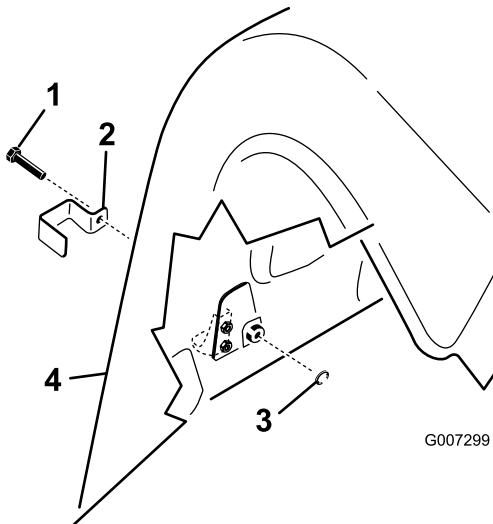

Figure 18
1. On the ProCore 864 model, install a lock bracket over the left and right rear lower hood and upper hood latches with a tap bolt (4 total); refer to Figure 18.
2. On the ProCore 1298 model, install a lock bracket over all the rear lower hood latches and the outside upper hood latch on both the right and the left rear covers with a tap bolt (3 per coring head, 6 total); refer to Figure 18.
3. Using a pliers or adjustable wrench, thread an internal lock washer onto each bolt (1 to 2 threads) to secure the latch (Figure 18).